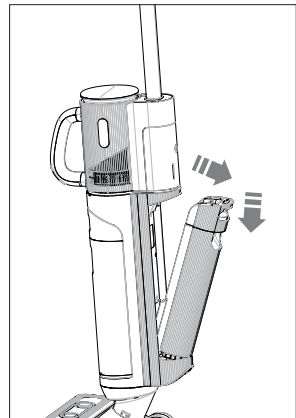

Fig. 6 – Removing the water tank
- ▶ Hold the recessed grip of the fresh water tank (14) and press the fresh water tank release button (15) downwards.
- ▶ Pull the fresh water tank out of the appliance body (see Fig. 6).